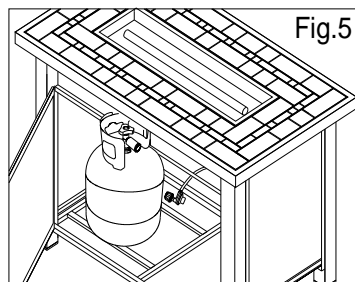

Fig.5
Attach Side panel (H) to Leg 1/2/3/4 (D1/D2/D3/D4) by Bolt (BB) and Flat washer (DD) through the holes on the side panel as Fig 5 shows.
- 2- Put the cylinder into the cylinder rack. See Fig 5.